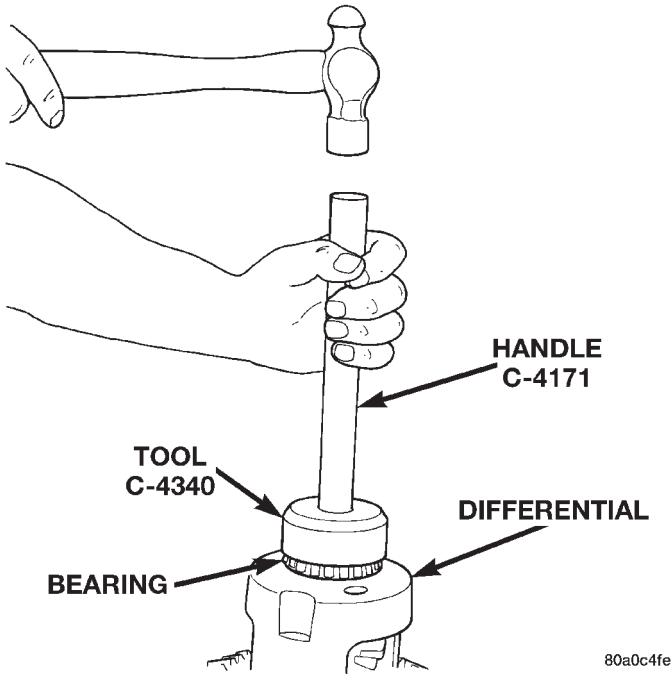

Fig. 21 Install Differential Side Bearings
- (1) Install differential side bearings. Use Installer C-4340 with handle C-4171 (Fig. 21).
- (2) Install differential case in axle housing.